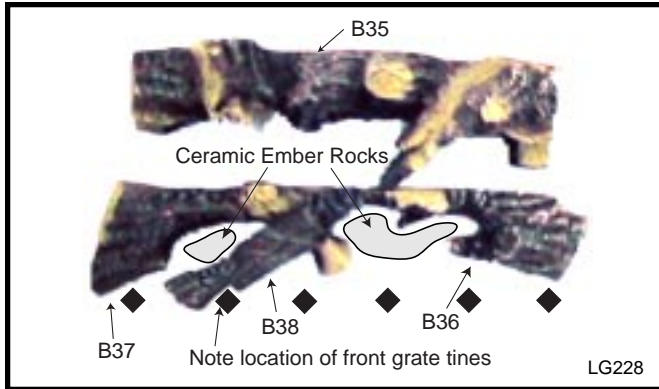

Fig. 44 DVRT39 logset and ember placement
DVRT39 - Refer to Figure 44.
3. Fit the **rear log (B35)** onto the rear log support. The two (2) holes in the log locate on the two (2) studs on the support.
4. Fit the **right-front log (B36)** onto support bracket over the right side of the burner housing assembly. The two (2) holes in the log locate over the two (2) studs of the bracket.
5. Fit the **left-front log (B37)** onto the support bracket over the left side of the burner housing. Again, the two (2) holes in the log locate on the two (2) studs on the bracket.
6. Place the **left-top log (B38)** in place. The notch along the lower front edge sits against the front grate (Fig. 44), and the top of the log sits in the cutout on the inner end of log B37.
7. Scatter the **Ceramic Ember Rocks (Part #57897)** over the burner housing assembly in the areas between the logs. Refer to shaded areas in Figure 44.